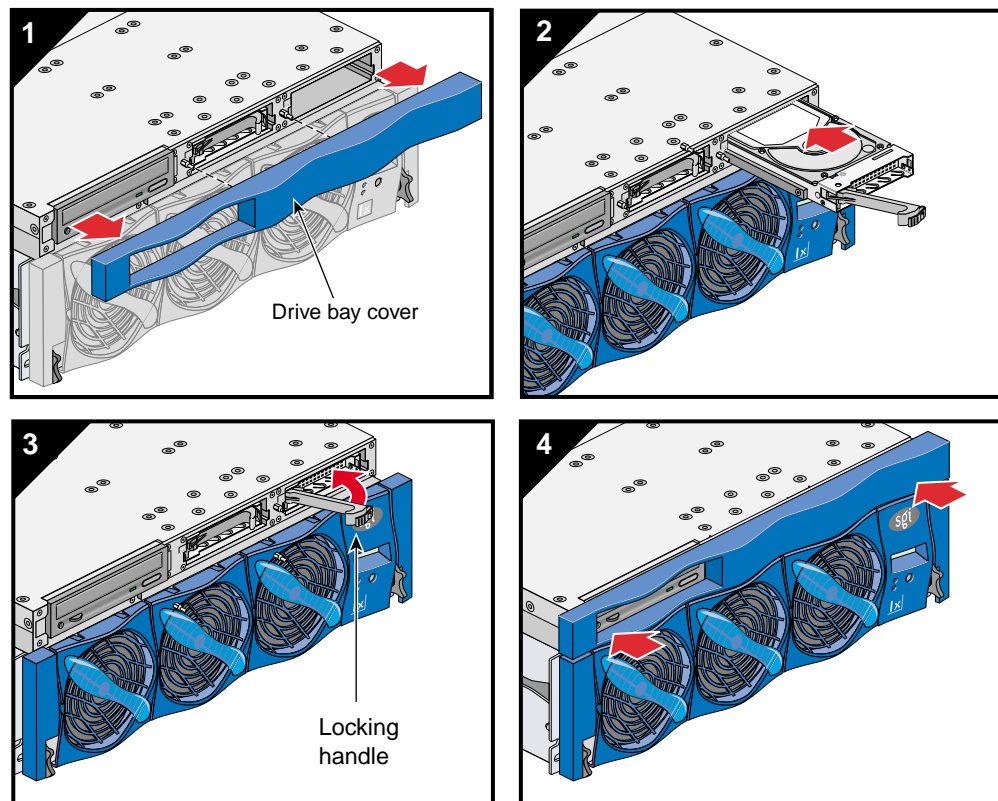

Figure 12-11 Installing a SCSI Disk Drive
To install a SCSI disk drive, see Figure 12-11 and follow these steps:
1. Remove the drive bay cover to access the two SCSI disk drive bays (see panel 1 in Figure 12-11).